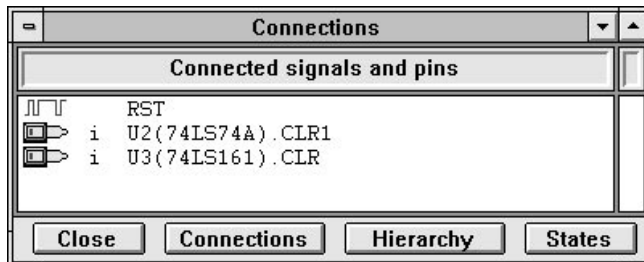

Figure 1-38. Signal Connectivity Table.
3. Figure 1-38 displays the connections for the selected item.
4. Double-clicking on any of the pins listed shown in Figure in Figure 1-38 (node listing) will display all the pins of the selected device. Double-clicking on any of the device pins will display a new signal node associated with the selected pin.
You may access the window shown in Figure 1-38 by clicking on the signal selection button in the Waveform Viewer toolbar, selecting a signal from Figure 1-8 and then clicking the RIGHT mouse button. ACTIVE-CAD will display the window shown in Figure 1-39. If you now click on the **View Connections** option, ACTIVE-CAD will display a window similar to Figure 1-38. The search for pin and signal line connections is identical as described above in reference to Figure 1-38.